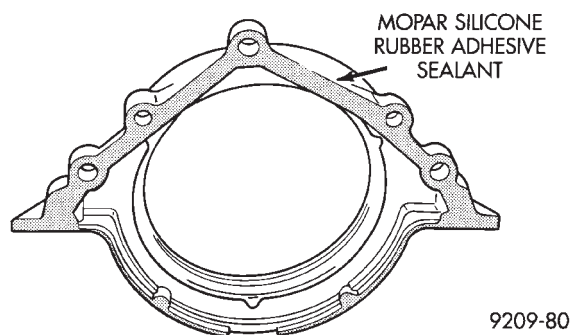

Fig. 74 Apply Sealant to Oil Seal Housing
(2) Apply (Mopar Silicone Rubber Adhesive Sealant or equivalent) to oil seal housing (Fig. 74) per procedure detailed in form-in-place gasket section in Standard Service Procedures.
(3) Apply light coating of engine oil to the entire circumference of oil seal lip.
(4) Install seal assembly on cylinder block and tighten bolts to 11 N·m (96 in. lbs.)